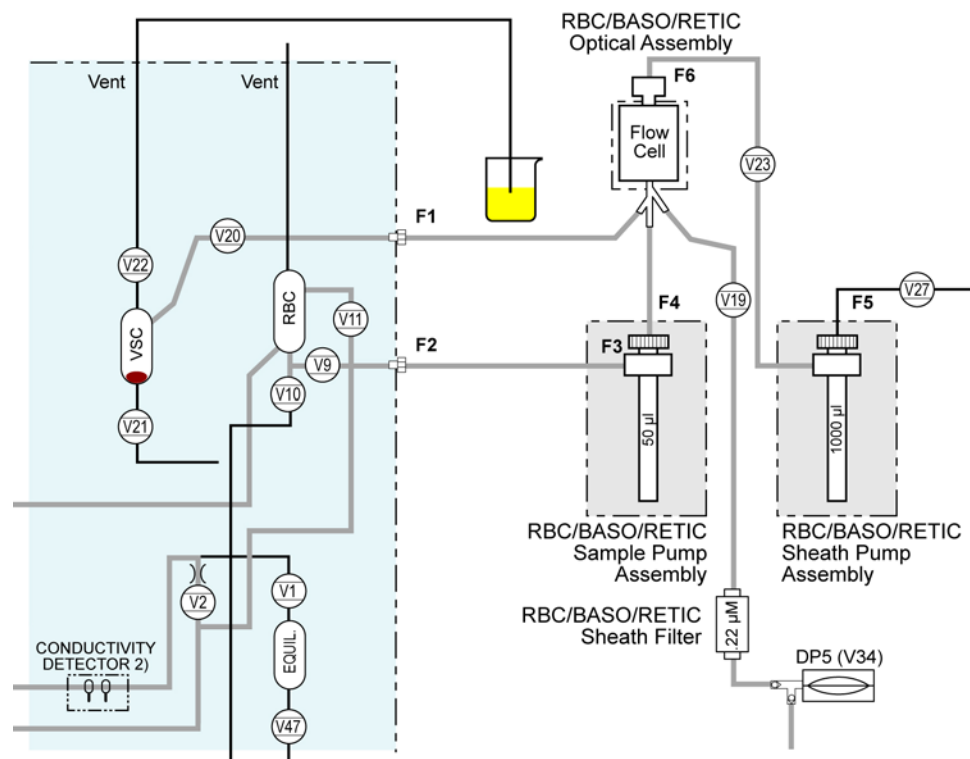

Figure 2. Transmission tubing connection to V22
3. Connect a piece of transmission tubing to the **V22** vent line and try to aspirate 25% bleach from a beaker. See **Figure 2**.